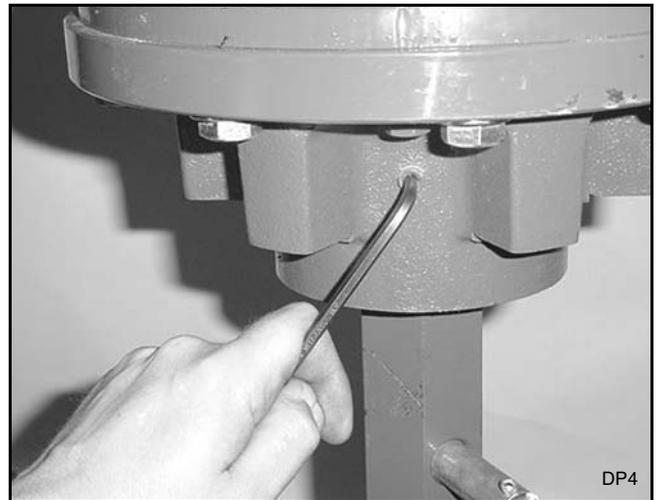

Figure 5. Remove Drain Plug
2. Remove the lower drain plug from the gearbox with a 3/16" allen wrench as shown in Figure 5.